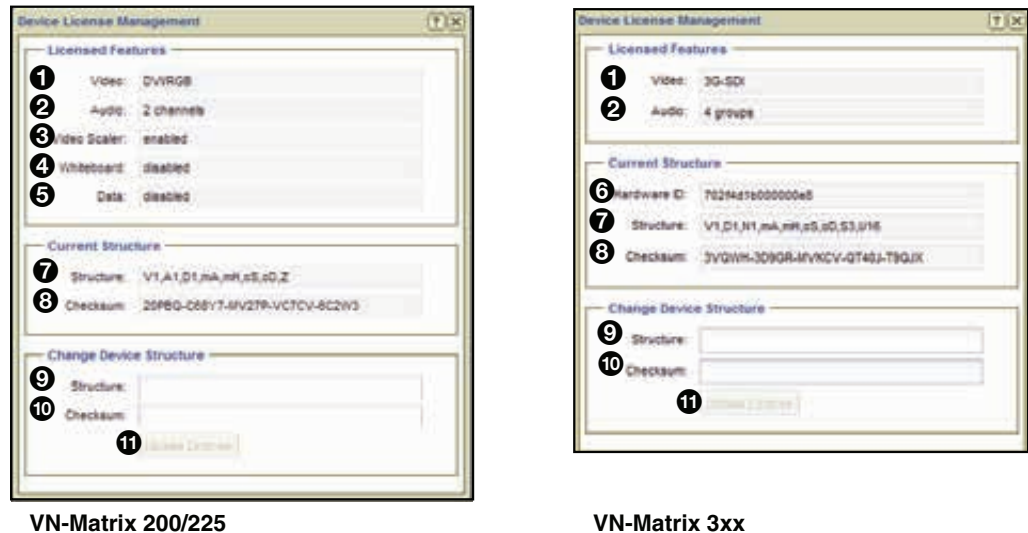

Figure 40. License Menu
Click **License** (see figure 29 on page 38) to open the **Device License Management** dialog box. This dialog displays the enabled features on the selected unit and also enables optional features (see figure 40).
- Enter the **structure key** into the **Structure** field (see figure 40, ⑨ on the previous page).
- Enter the **checksum** into the **Checksum** field (⑩).
3. Click **Update License** (⑪) to save the new license.